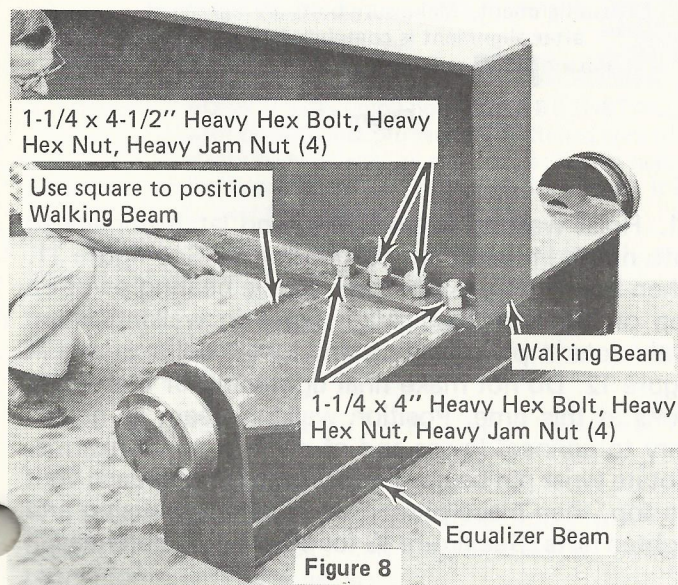

Figure 8
4. Hoist walking beam into position over equalizer beam as shown in figure 8 and attach with bolts